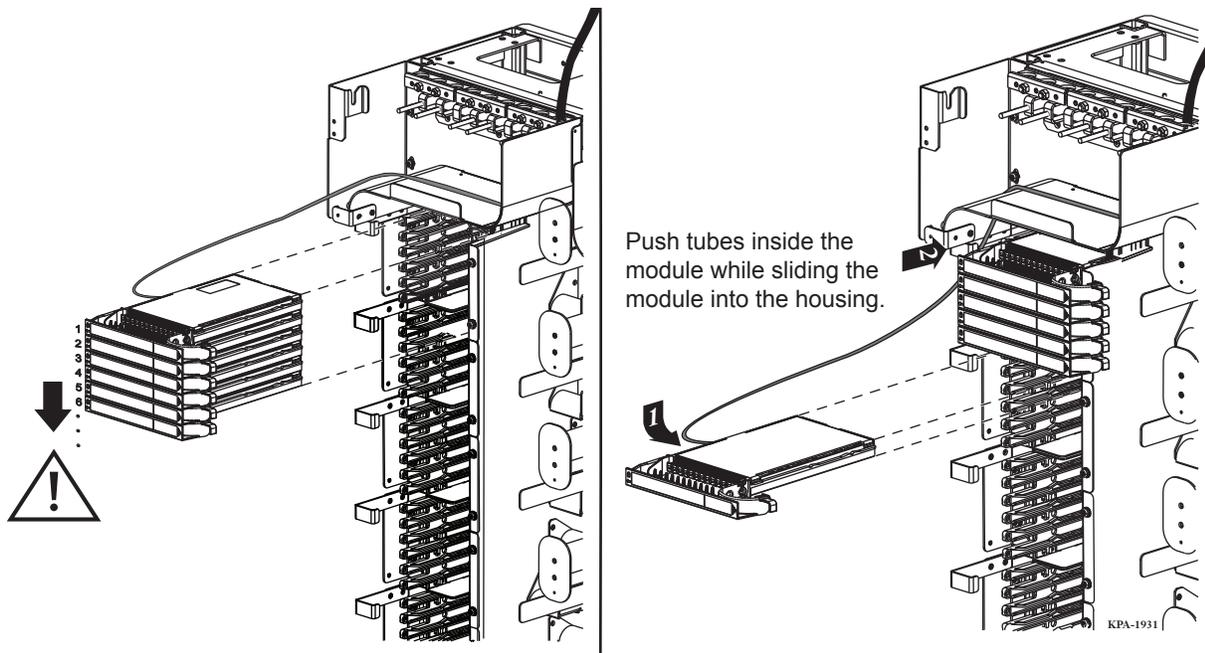

Figure 8
- Step 5:** Beginning at the top of the highest available empty housing assembly, insert the module into the housing (Figure 8).